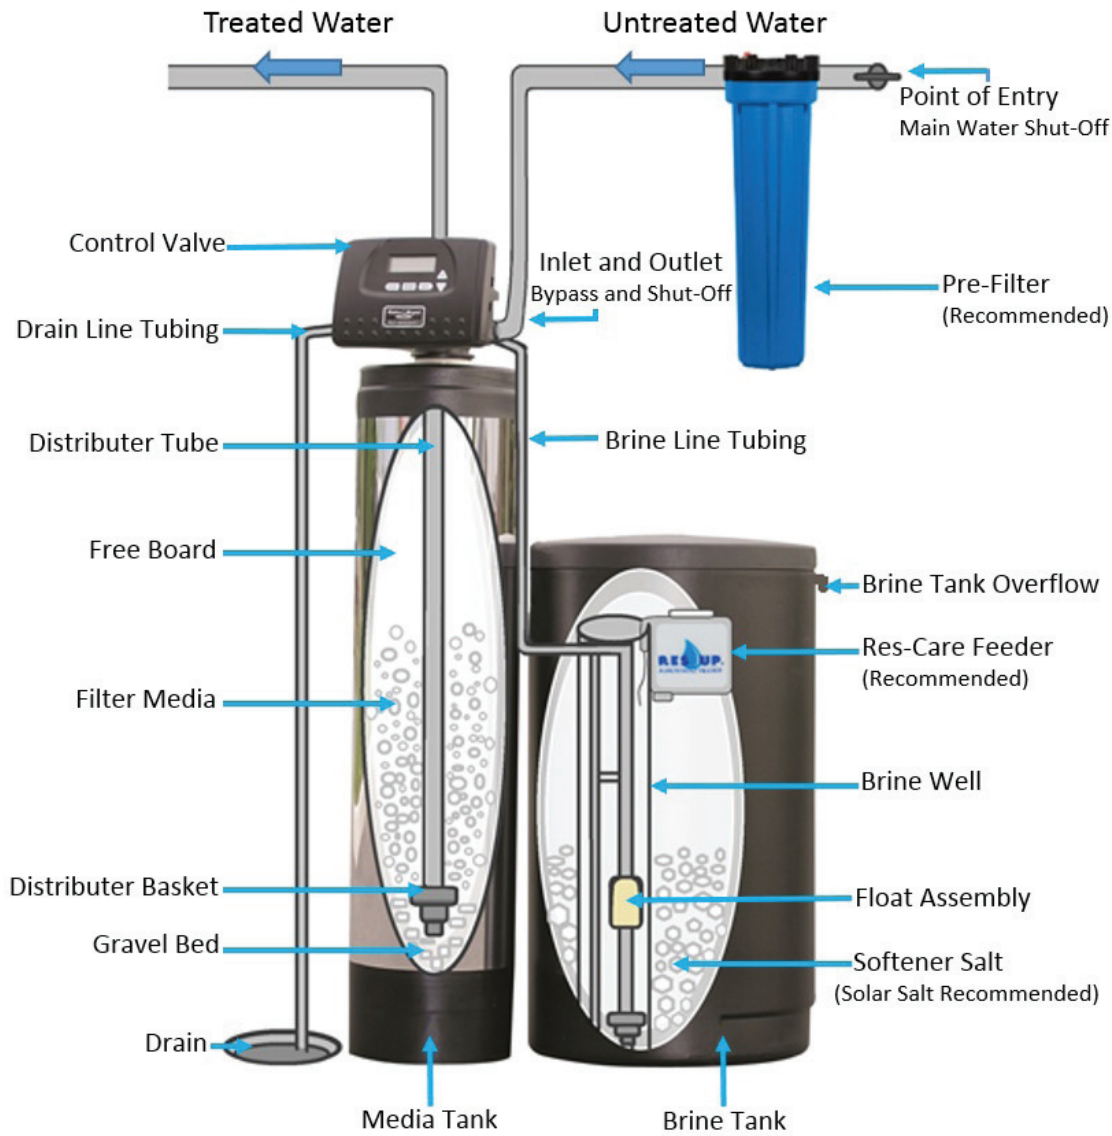

Figure 1
- See the typical installation diagram (Fig 1). If a pressure tank is present, install Platinum Softener System after.
1. Install inlet and outlet piping, drain tubing, and brine line tubing (Fig 1). The brine line tube is included and is shipped inside the brine tank.
2. Connect the over-flow fitting (Fig 1) on the side of the brine tank to a floor drain.